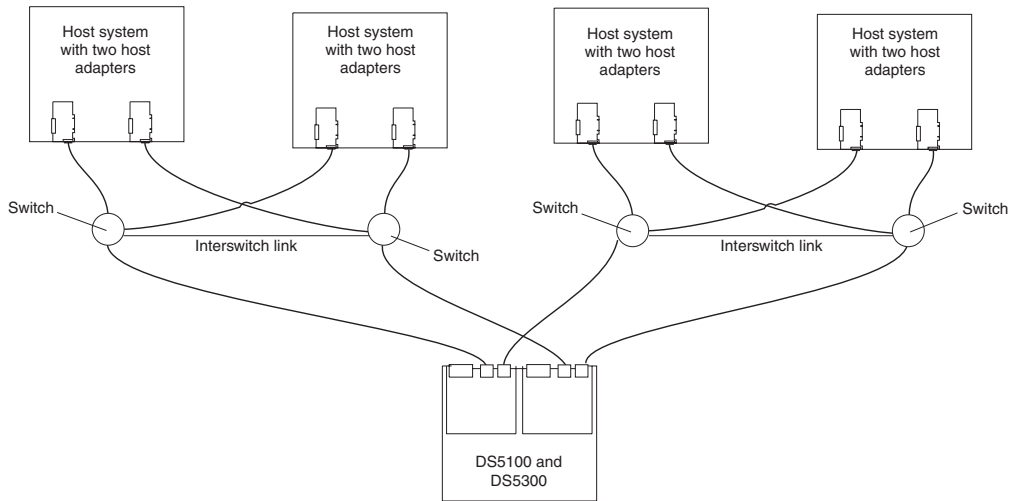

Figure 93. Example of a two-cluster configuration
- Two clusters, as shown in Figure 93 on page 142
Figure 93 on page 142 gives an example of one and four host systems configured into two clusters; each cluster comprised of two host systems and two fibre channel switches